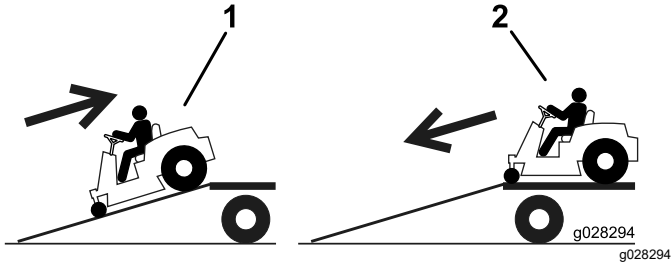

Figure 15
2. Drive the machine forward down the ramp (Figure 15).